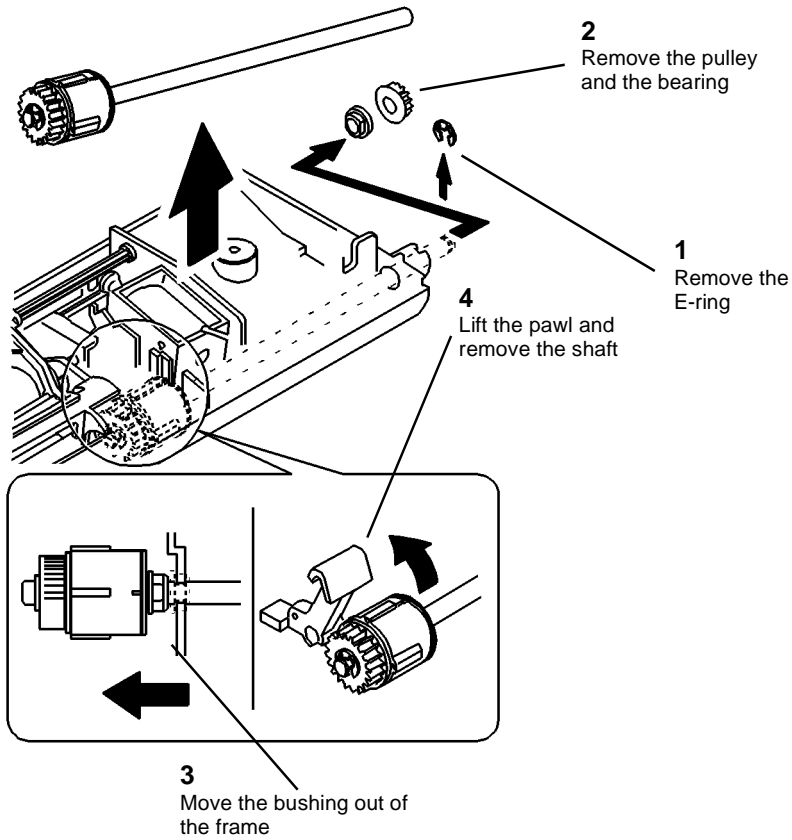

Figure 4 Preparing to Remove the Clutch
4. (Figure 4): Prepare to remove the clutch.